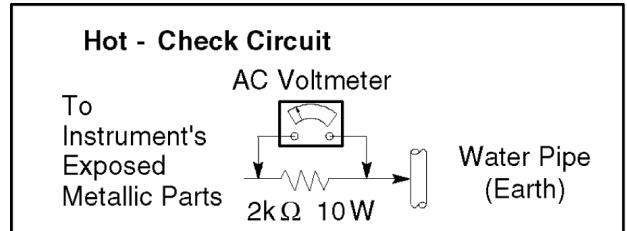

Fig. 3
4. Check each exposed metallic part, and measure the voltage at each point. Fig. 3.
1. Receive a 3.58 MHz NTSC rainbow pattern  2. Connect oscilloscope to A21 pin 6.  3. Set controls: BRT.....CENTER COLOUR.....CENTER CONTRAST....MAX NTSC TINT....CENTER AI.....OFF	1. Adjust Sub NTSC Tint so that the peak of level of waveform is similar to Fig. 3  2. Receive the Rainbow pattern (3.58 MHz NTSC) on both of Main and Sub pictures.  3. Adjust Sub NTSC Tint 2 so that the peak of level of $1.3 \pm 0.5V$